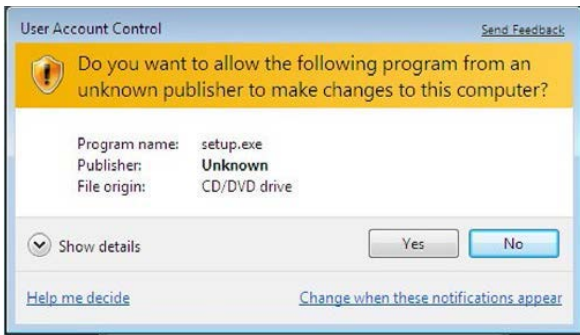

Figure 2. User Account Control Dialog Box
3. A dialog box appears asking for permission to allow the program to make changes to the PC. Click **Yes** to begin the installation process (see Figure 2).